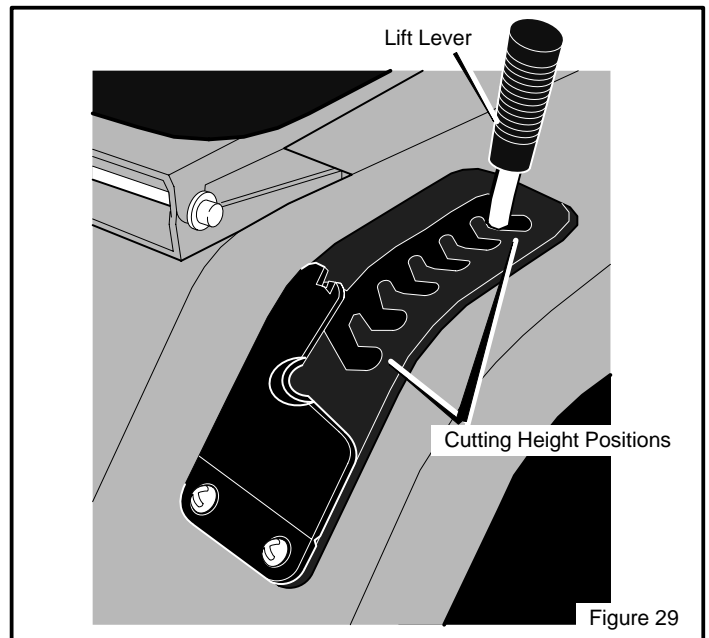

Figure 29
2. Mow a short distance on a flat level area to check the level of cut and the height of cut. Look at the **height of cut position number** on the **lift lever** (Figure 29).